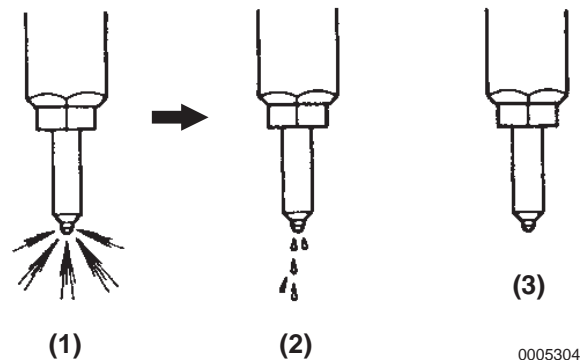

Figure 6-41
7. After the injection test, check for leakage from the injection hole (**Figure 6-41**). There should be no leakage.